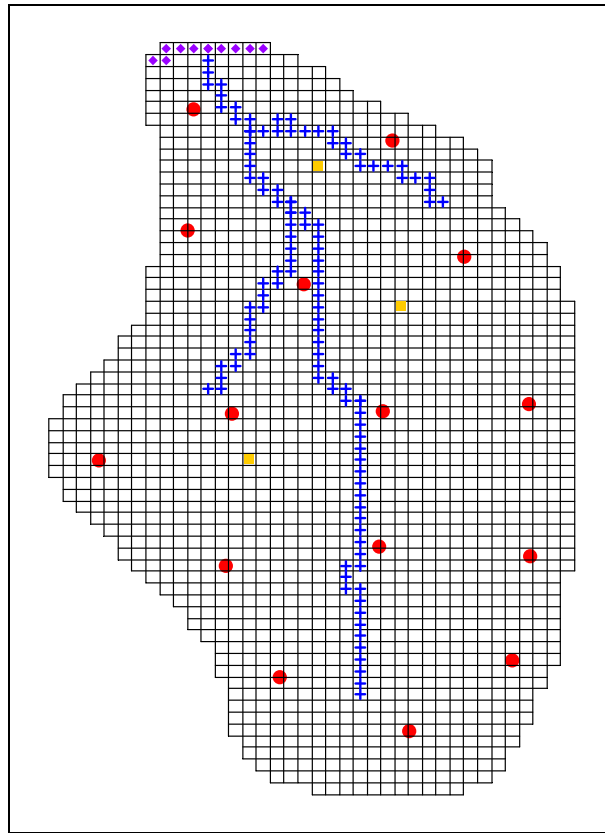

Figure 9-4 Placement of TIN Vertices
7. Click out a set of scatter points similar to those shown in Figure 9-4. Create about 15 points. Don't worry about the exact location of the points, as long as they are distributed in a reasonable fashion.